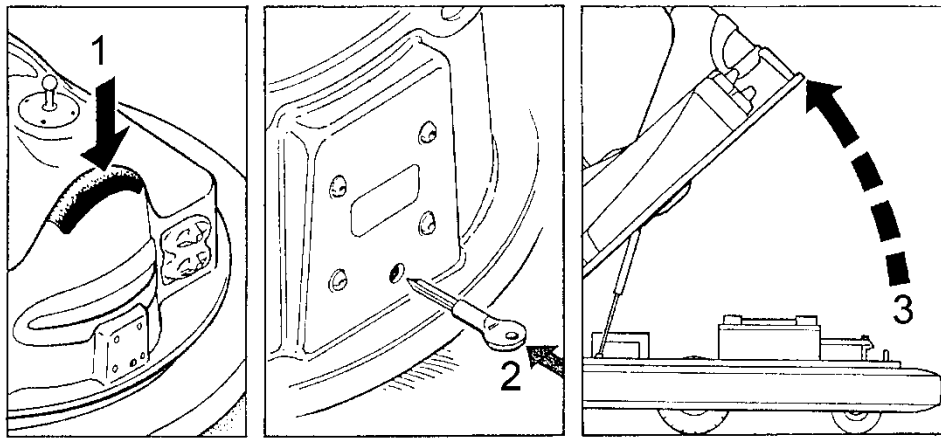
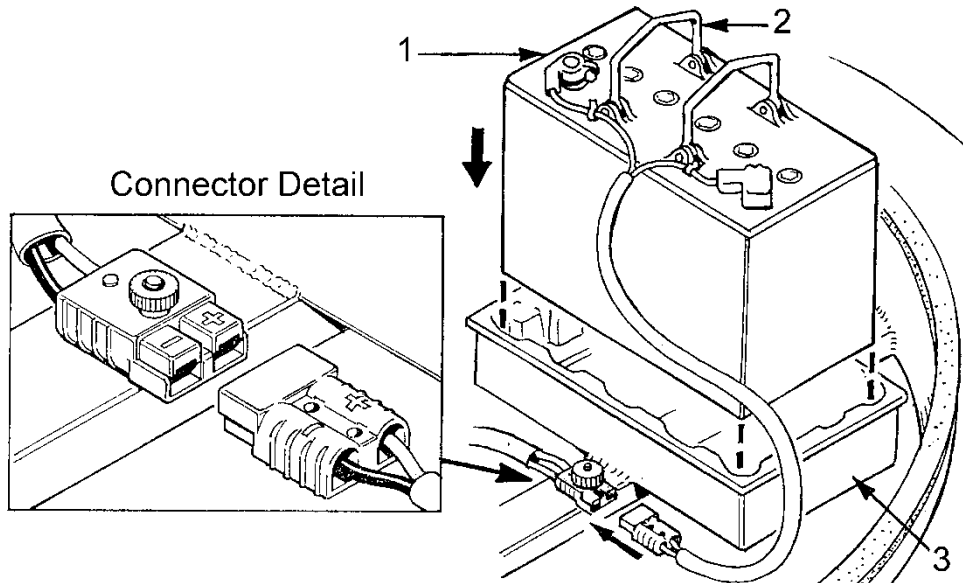

Fig 4.1 - Opening the Body
Fig 4.2 - Fitting the Batteries
Referring to Fig 4.1 above, insert the body key into the hole at the rear of the body until resistance is felt. At this point press down on the back of the body (1) and at the same time push the key in to the stop (2). At this time the body may be opened by lifting (3). The body will be supported by the gas spring. Carefully inspect the vehicles for any sign of transit damage. If any damage is present this should be notified to the transport company immediately and preferably whilst the driver is still present.
1. Place two batteries into an ORBITER. Note the position of the cables as in Fig.4.2 and connect the batteries.
1. Open the ORBITER body (Fig 4.1) and carefully place the batteries into the battery carriers (Fig 4.2). *Note the position of the battery leads and ensure that the battery lifting handles are folded flat against the top of the battery.*
5. Connect the battery leads to the ORBITER control electronics (Fig 4.2).